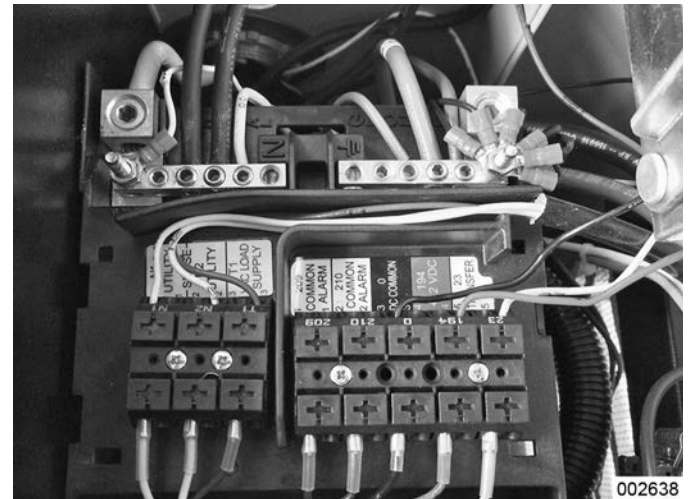

Figure 6-4.
5. **Remove Control Wires:** See Figure 6-4. Remove Wires N1, N2, T1, 0, 194, 23, and unit status lights from the control box.